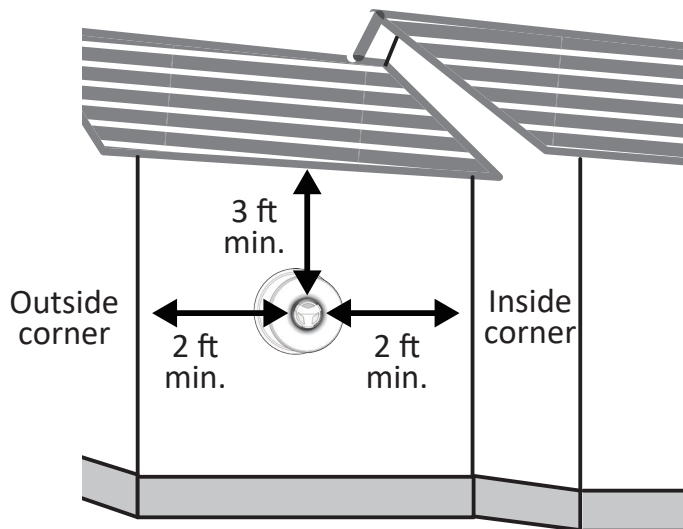
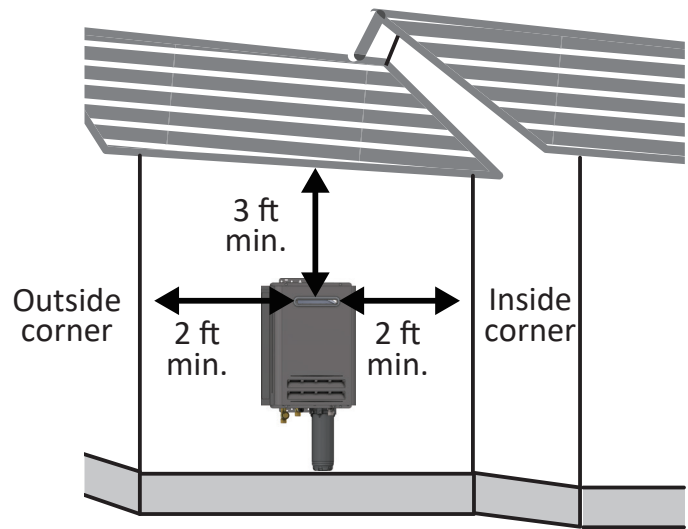
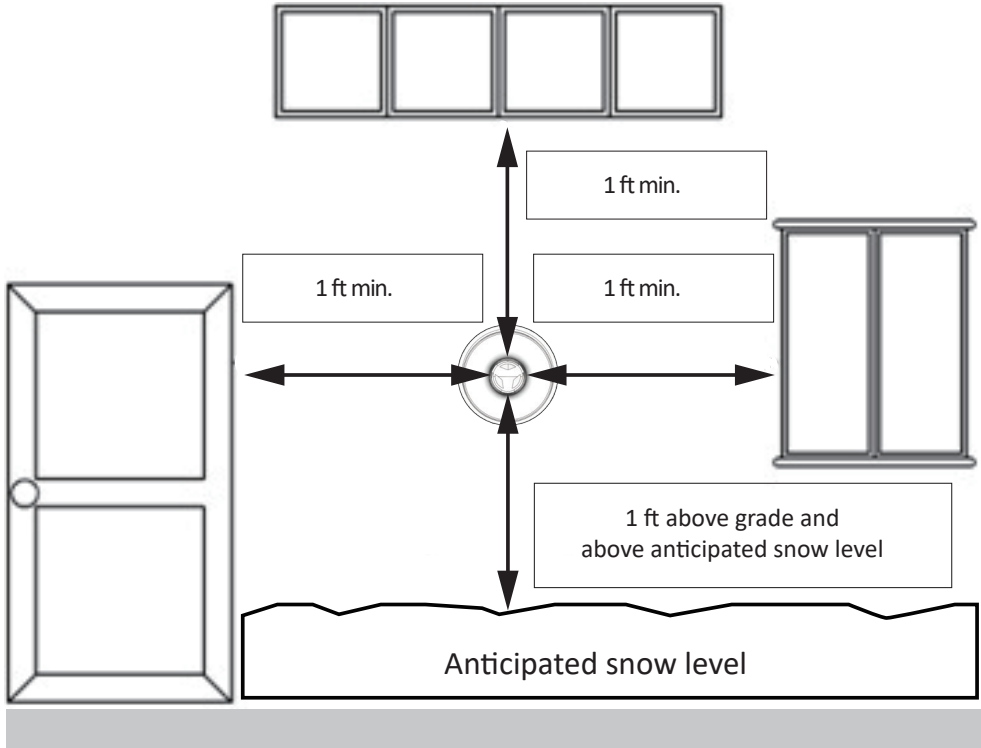
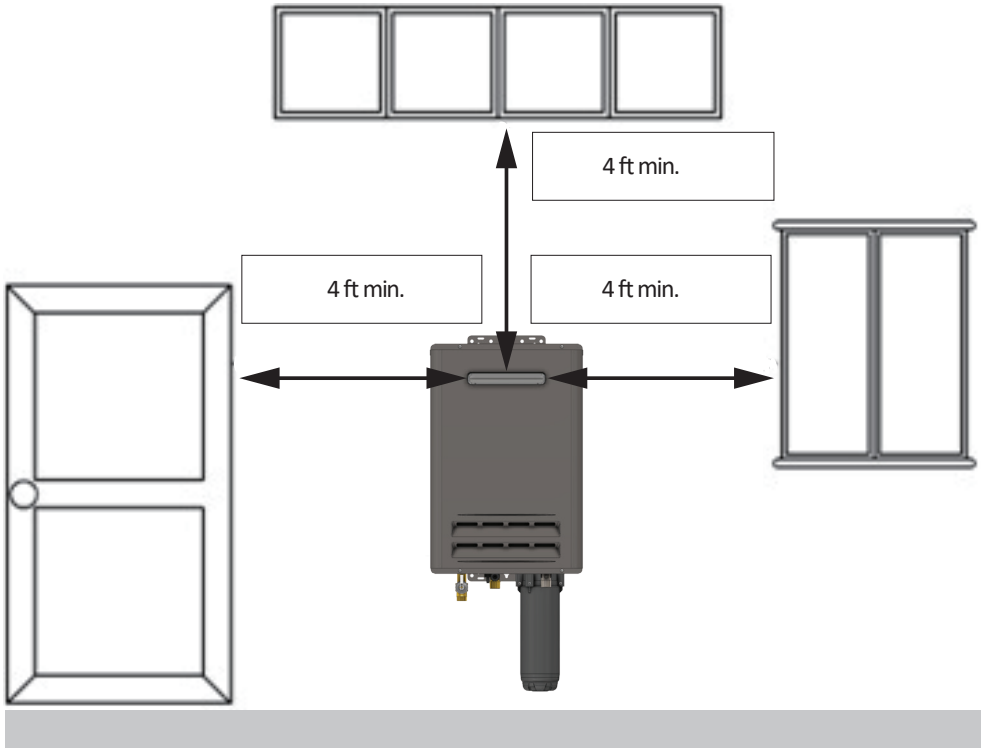

Figure 1 - Overhang and Inside Corner Restrictions (Indoor Direct Venting)
Figure 2 - Overhang and Inside Corner Restrictions (Outdoor Other than Direct Venting)
Figure 3 - Minimum Vent Clearance (Indoor Direct Venting)
Figure 4 - Minimum Vent Clearance (Outdoor Other than Direct Venting)
- **DO NOT** install the exhaust vent within 3 feet of an overhang. Vent termination must be at least 2 ft away from an inside or outside corner for direct vent and other than direct vent installations (see Figure 1 & Figure 2 for indoor and outdoor models, respectively).
opening in a building or where the noise may disturb your neighbors. Make sure the vent termination meets the required clearance from any doorway or opening to prevent exhaust from entering a building. Check local code requirements prior to installation (see Figure 3 & Figure 4 for indoor and outdoor models, respectively).
The Outdoor models are only to be installed outdoors and only in an area with mild, temperate climates. The Outdoor model shall be wall mounted, on a stand, or installed in an approved recess box. Locate the Outdoor model in an open, unroofed area and maintain the minimum clearances from the water heater exhaust terminal (see Figure 2 & Figure 4).